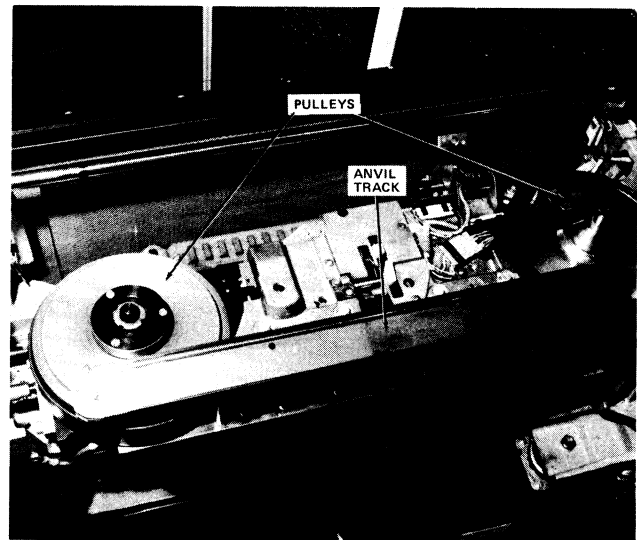

Figure 3-32. Pulleys Support Assembly, Pulleys, and Anvil
2. Clean ceramic track of anvil without removing finger protector (Figure 3-32) using Honeywell general cleaner.
Vacuum cartridge mechanism, pulleys, and casting (Figure 3-32).
Clean driving surfaces of both pulleys (Figure 3-32) using Honeywell general cleaner.